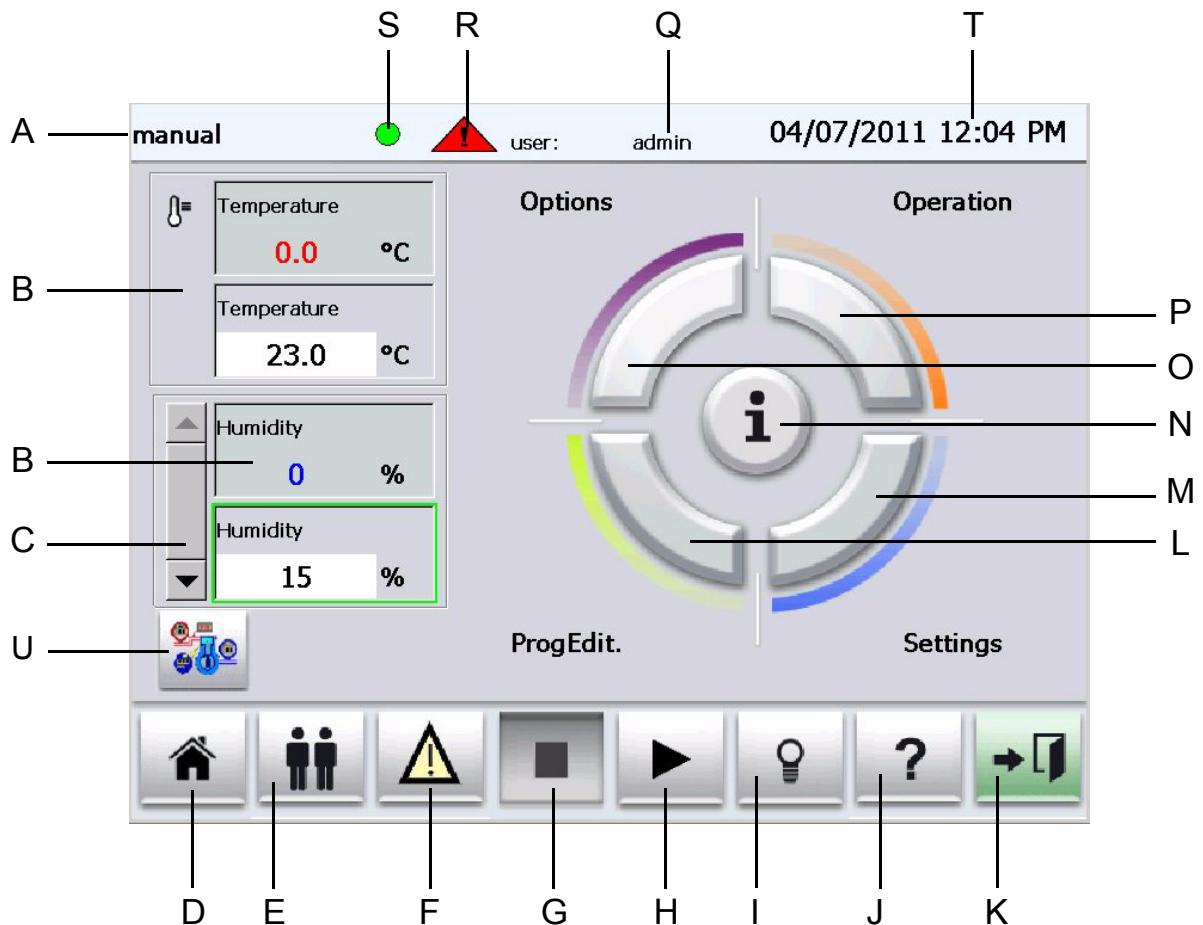

Fig. 3-1
- refer to chapter 3.1 , Fig. 3-1 (page 17)